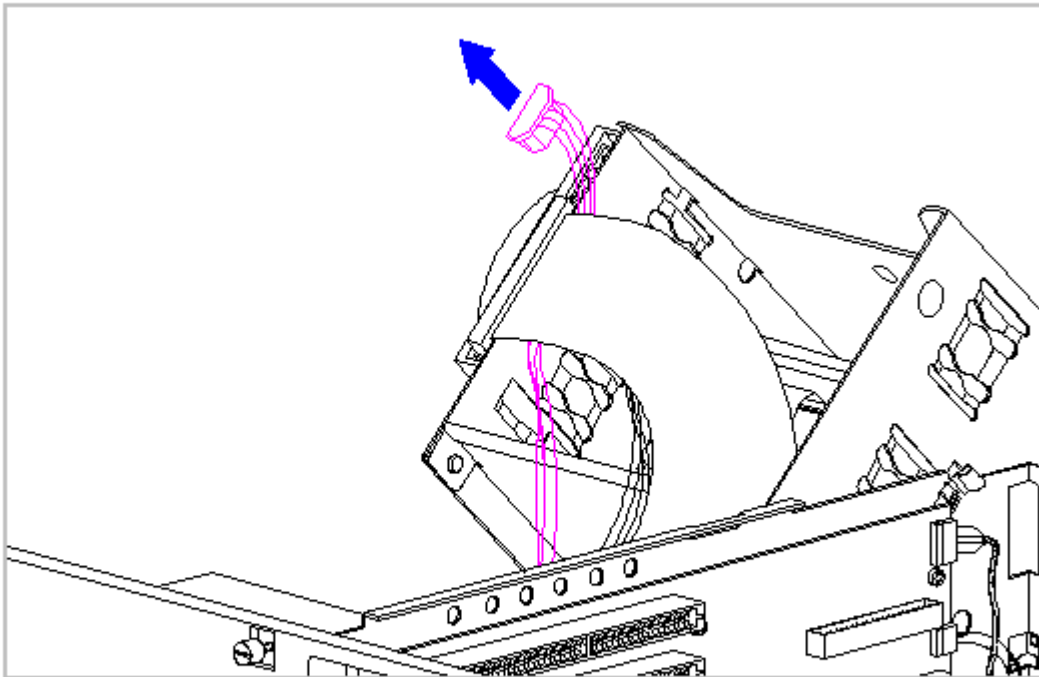
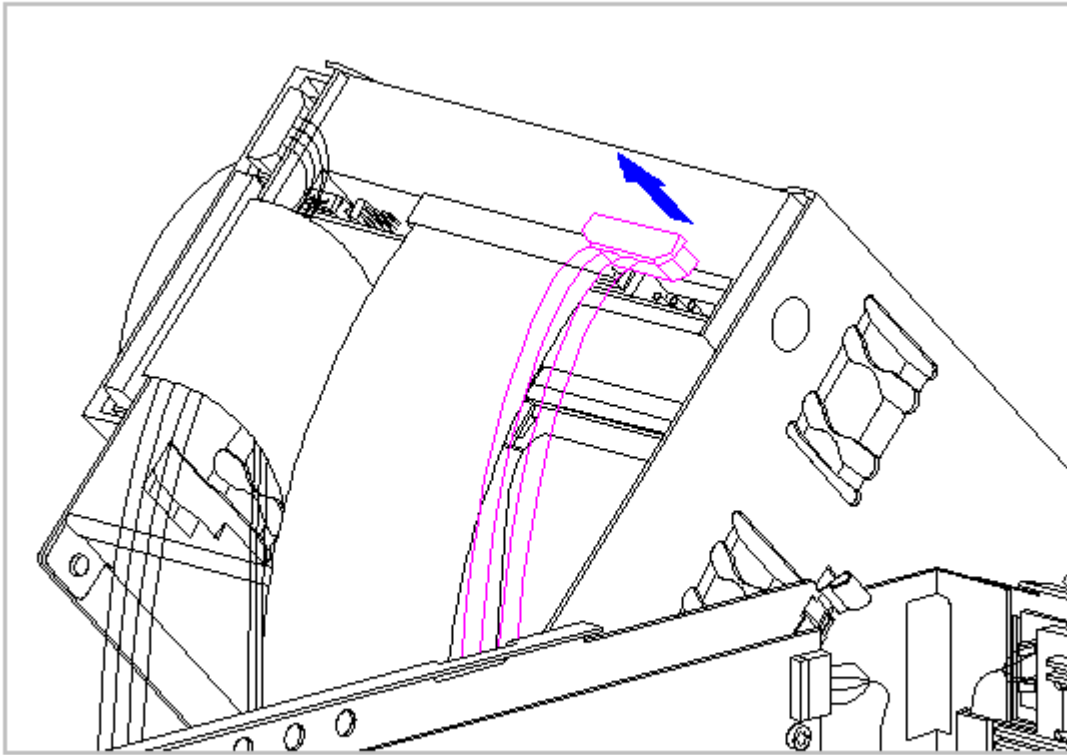
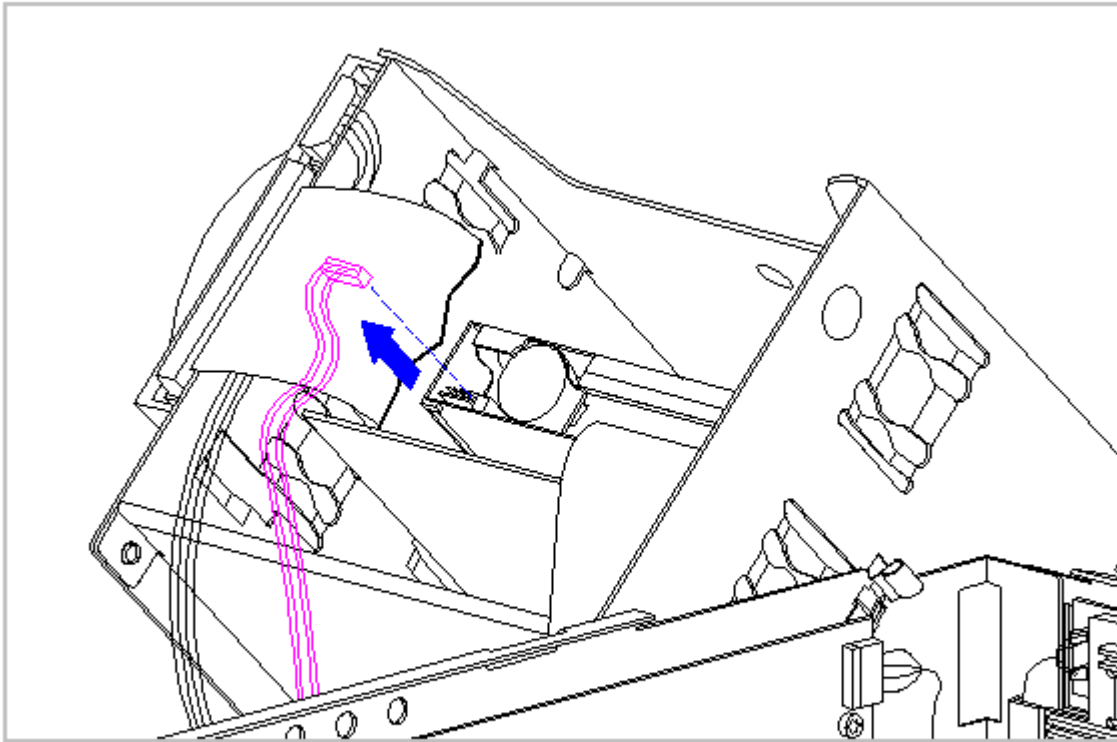

Figure 5-15. Disconnecting the Power Supply Cable from the Hard Drive
Figure 5-16. Disconnecting the Power Supply Cable from the CD-ROM Drive
Figure 5-17. Disconnecting the Power Supply Cable from the Diskette Drive
8. Disconnect the power supply cables from the hard drive (Figure 5-15), CD-ROM drive (Figure 5-16), and diskette drive (Figure 5-17). Any other mass storage device will disconnect in the same manner.